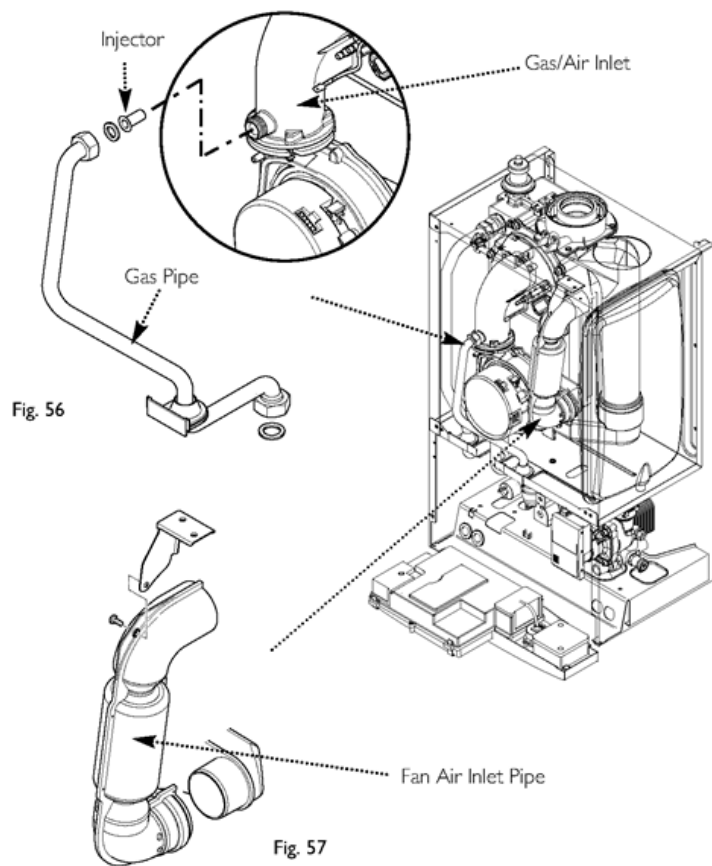

Fig. 56 & Fig. 57
1. Undo the nut on the gas pipe at the gas/air inlet (Fig. 56) and the gas valve. Remove the pipe, taking care not to lose the sealing washers. Also remove the injector.
13.4 Injector (Fig. 56)